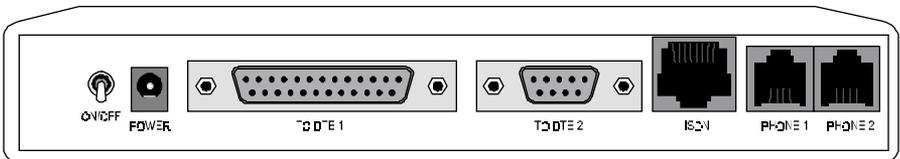

Figure 2-1
- 3) Connect the round end of the power adapter to the POWER JACK on the modem's back panel (see Figure 2-1).